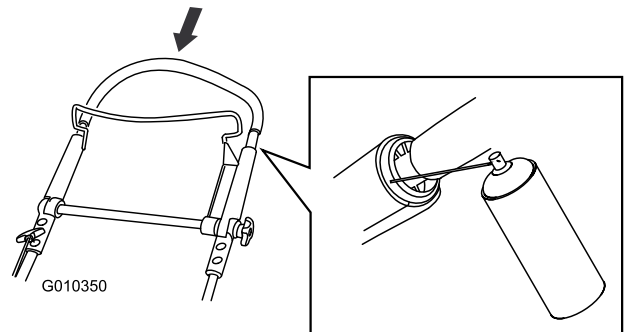

Figure 41
- Push the upper handle fully down and spray the inner plastic surface of the outer handle (Figure 41).